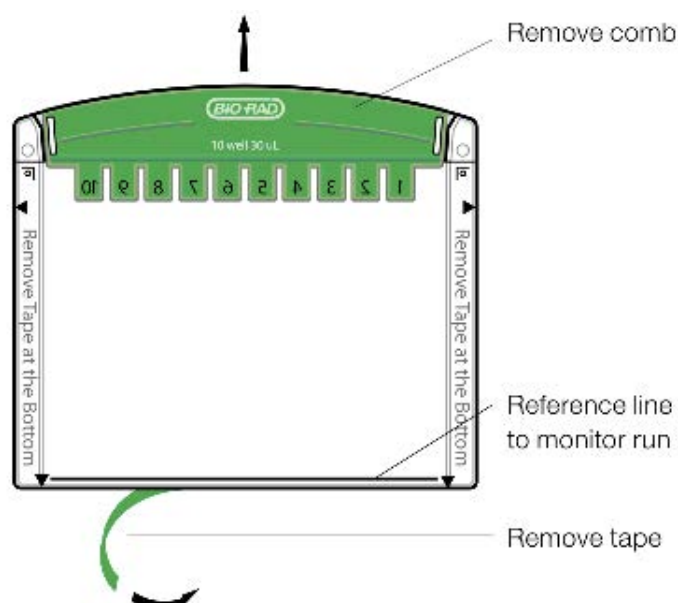

Figure 1. Mini-PROTEAN TGX gel.
1. **Remove comb:** Position both thumbs on the ridges of the comb. Remove the comb by pushing upward in one smooth continuous motion (Figure 1).
2. **Remove tape:** Pull the green tape gently to remove from the bottom of the cassette (Figure 1).